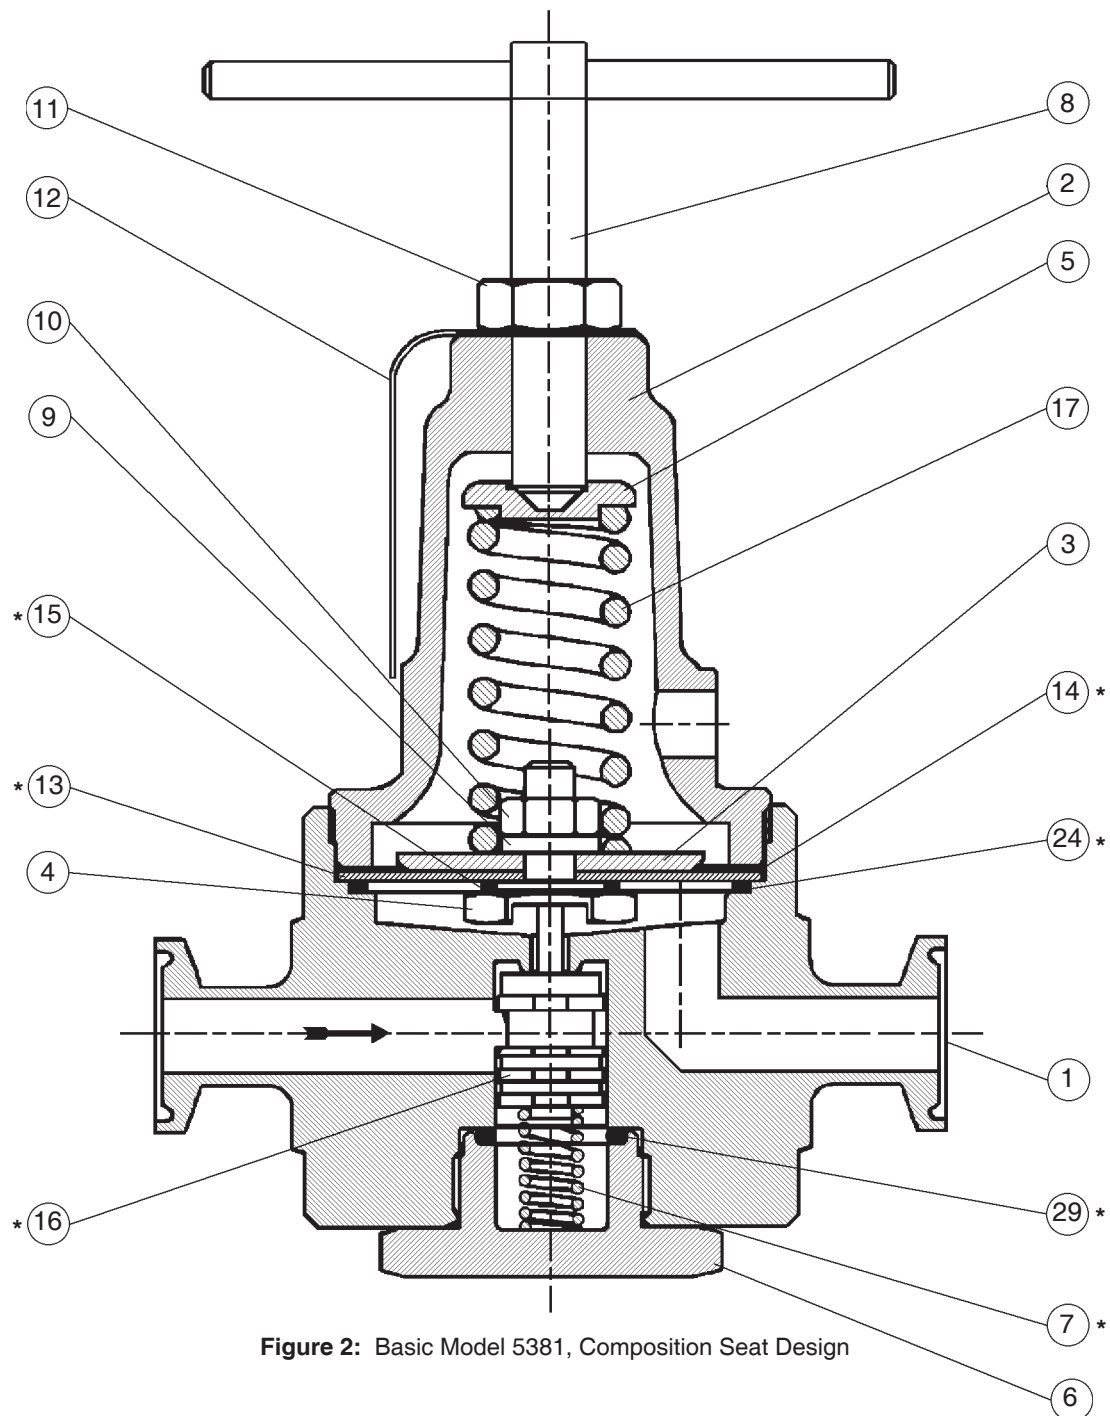

Figure 2: Basic Model 5381, Composition Seat Design
3. Refer to Figure 2 for basic regulator, item number reference ().